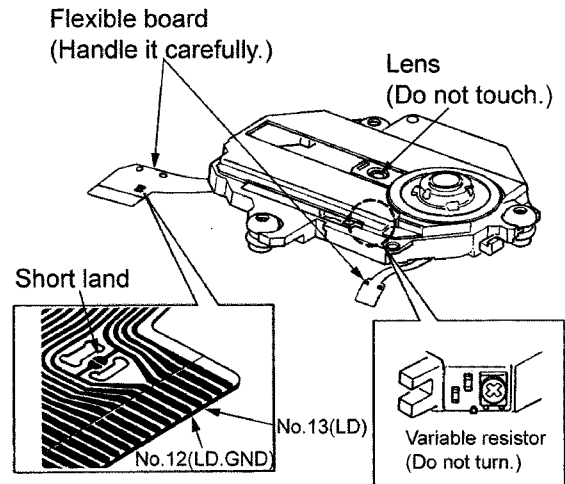

Fig. 2
4. Do not turn the pre-set variable resistor (for adjustment of the laser power); it has been adjusted at the factory. (as shown in **Fig. 2**)